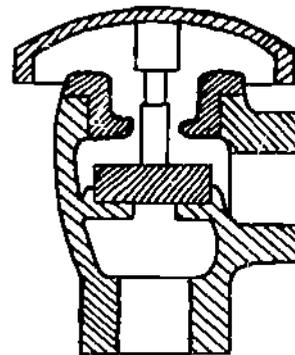

Figure 30-2. Vacuum Breaker Cross-Sectional View, Shown Open to Atmosphere
- b) Pressure Type (See Figure 30-2).